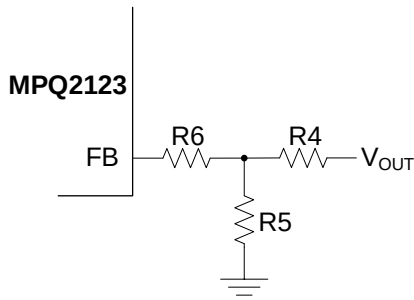

Figure 3: T-Type Feedback Network
The external resistor divider connected to FB sets V_{OUT} (see Figure 3). The feedback resistor (R4) must account for both stability and dynamic response, so it cannot be too large or too small. R4 is about 100kΩ. R5 can be calculated with Equation (2):
It is highly recommended to use a T-type feedback network (see Figure 3).